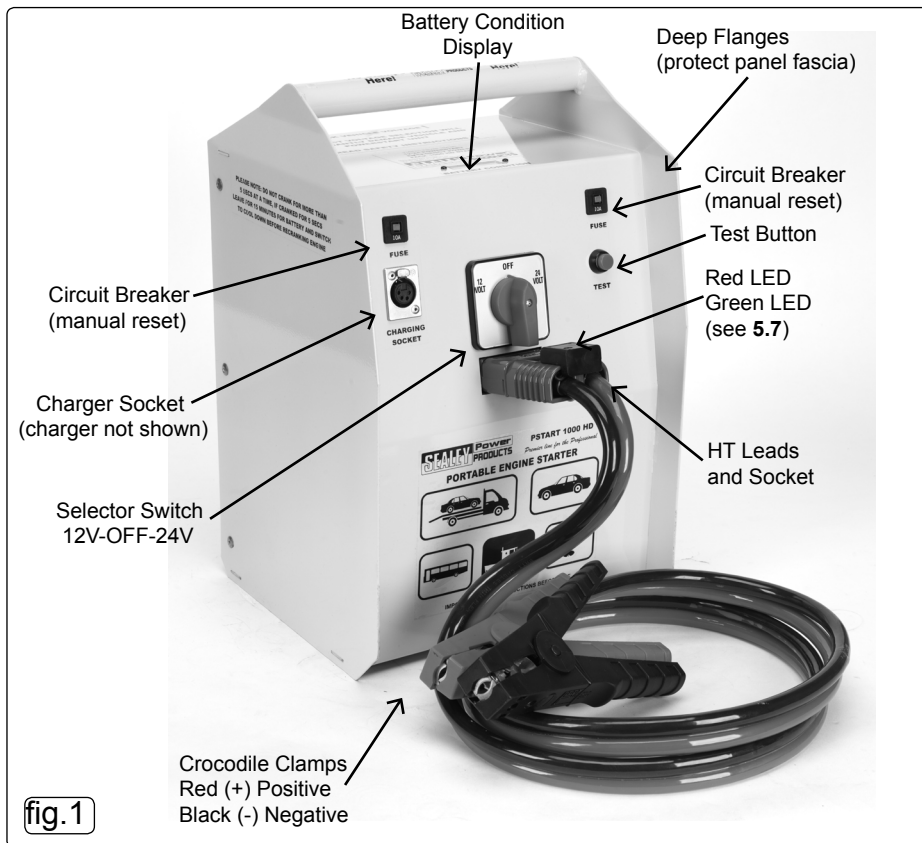

fig.1
- 4.1.1. Ensure that the Powerstart selector switch is in the 'Off' position (fig.1).